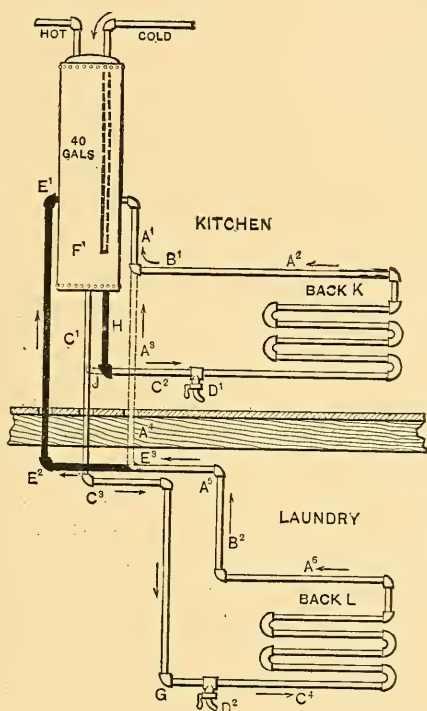

Fig 2.—Proposed Change in Pipe Connections.
*Answer.*—To simplify our answer to our correspondent's query we have reproduced his sketch, Fig. 1, and added another sketch, Fig. 2, with letters for reference, and in which the heavy black lines indicate the changes required and the dotted lines the existing arrangements. The arrows we have also introduced. To account for
perature of the fire increases, the relative temperature in pipe C2 (the temperature in C2 being always less than in A2) also increases and heats the descending column in C1 pipe, gradually reducing and impeding the supply of cold water from F to back L through pipe C1 C3 C4, because hot water does not circulate downward. Ultimately the circulation by means of hard firing may be confined to a short circuit in the pipes from back L, Fig. 2, upward through pipes A6, B2, A5, A4, A3 as the flow pipe, and downward through B1, A2, back K, C2, C3, G, C4 as the return pipe. On account of the short or impeded supply of cold water through C1 from F, because hot water will not circulate downward, steam is readily produced in back L, and its condensation as quickly as produced by the column of water which it is not powerful enough to remove produces the noise within the pipes.
The remedy, therefore, lies in a rearrangement of the pipes. The changes required are shown by heavy black lines on sketch, Fig. 2. It will be observed that the change in the pipes to back L is in the flow pipe and that to back K in the return pipe. The pipe A3 A4 on the flow pipe of back L is removed, and in its place the pipe E1 E2 E3 is used. The connection E1 need not be placed opposite connection A1, but it will be well to have both connections to hot water reservoir on or near the same level. The return pipe C2 to back K will be disconnected from return pipe C1 at J, and the pipe H used so as to connect the back K directly with the reservoir. By this arrangement it will be observed that the circulation between each back and the reservoir is independent, and that whichever back is used there is no circulation possible except through the one heated. Again, there is no circulation possible through the pipes and backs independent of the reservoir. The horizontal pipes will not materially affect circulation, but to insure against any possible dip or trap or improper inclination, it is always well to incline the horizontal pipes in the proper direction. The horizontal flow pipes should therefore incline upward from the backs to the reservoir, and the horizontal return pipes C2 and C4 may incline upward from points J and G to backs K and L respectively, the sediment cocks D1, D2 being placed at the lowest points, J and G.